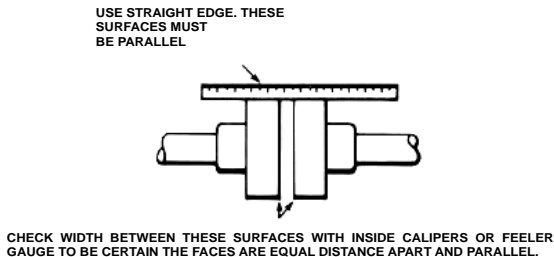

FIGURE 3
1. If the unit has a flexible coupling, remove any coupling guards or covers and check alignment of coupling halves. A straight edge (piece of key stock will work) across the coupling must rest evenly on both rims at the top, bottom and sides. See Figure 3.